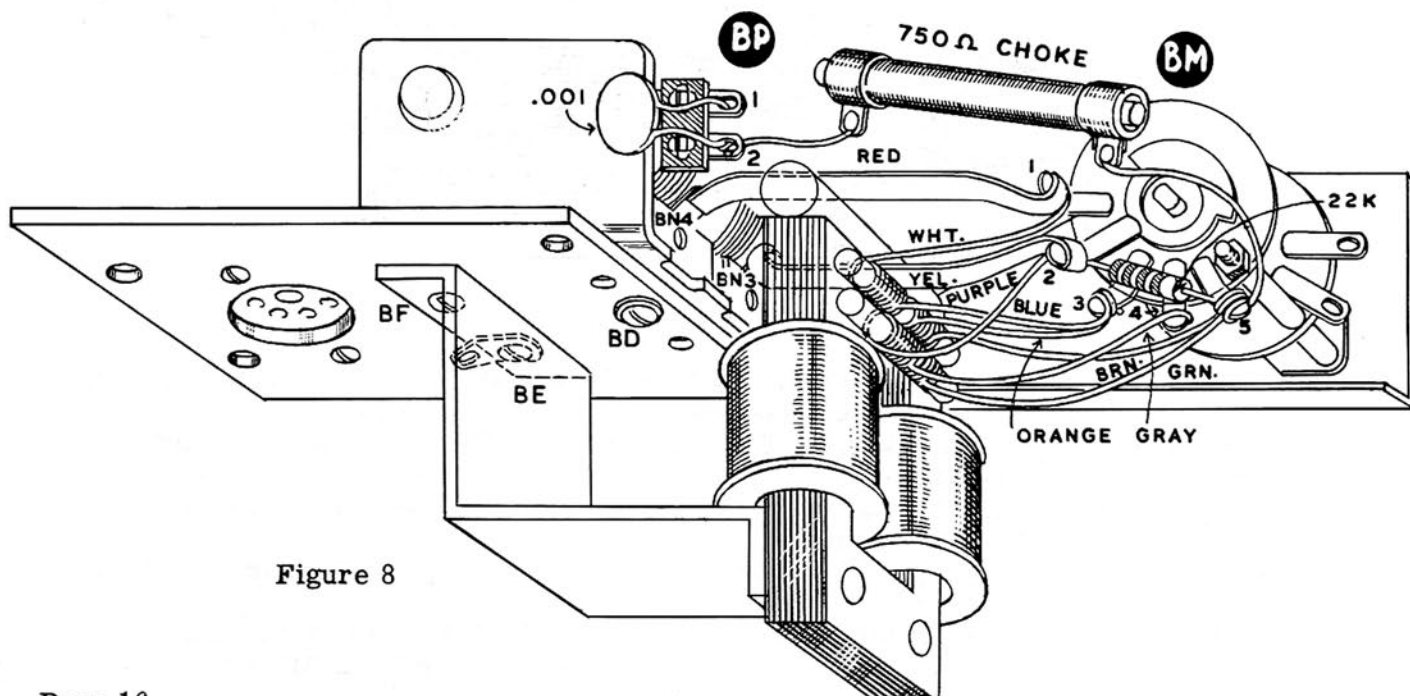

Figure 8
- () 128. Connect a bare wire from switch contact 15 (S) across to the rearmost wafer contact 4 (NS).
- () 130. Mount the band switch through hole BM in the bracket. The lockwasher will mount between the nut and the bracket. Orient the switch with lugs 1 and 2 pointing toward the tuning condenser as in Figure 8. Leave the switch loosely mounted and place the wire and two condensers connected to the front section of the switch between the tuning condenser and the switch bracket.
- () 135. To begin wiring, bend lugs 1 through 5 on band switch BM until they point straight back at 90° to the wafer. Connect a white coded wire to the top left contact BM1 (NS) on the band switch. See Pictorial 3 and Figure 8.
- () 136. Wrap the red coded strap end nearest the band switch around switch clip BM1 (S). Make sure solder flows smoothly over the entire connection.
- () 137. Connect a 22 KΩ resistor (red-red-orange) from contact BM2 (NS) to contact BM5 (NS). The resistor leads should be straight back from the contacts so that it will be possible to wrap the yellow coded strap around BM2 without interference. Keep leads short.
- () 138. Connect the purple lead from the bottom coil to switch BM2 (NS).
- () 139. Wrap the nearby end of the yellow high frequency strap around switch BM2 (S). Make sure that the connection is secure.
- () 140. Connect the blue lead of the middle core to switch BM3 (NS).
- () 141. Connect the orange lead of the middle core to switch BM3 (S).
- () 142. Connect the gray lead of the bottom coil to BM4 (S).
- () 143. Connect the brown lead of the middle core to switch BM5 (NS).
- () 144. Connect the green lead of the bottom coil to switch BM5 (NS).
- () 145. Install an RF choke (the 750 Ω 10 watt tubular resistor with a ferrite core cemented through the center) from terminal strip BP2 (NS) to band switch BM5 (S). Check all wires to the switch to be sure that no short circuits exist. Redress the leads slightly if necessary.